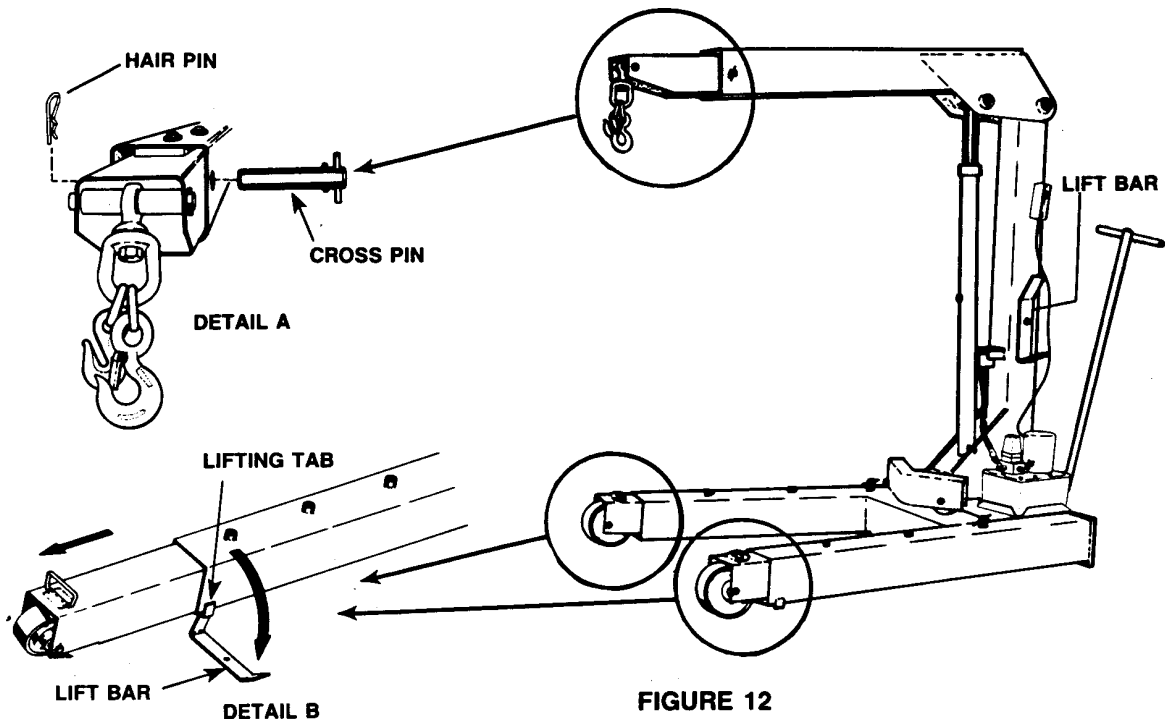

FIGURE 12
1. To extend the boom, remove the cross pin and slide the boom extension out to a desired length. See Figure 12, Detail A.
1. To extend the legs of the crane, remove the lift bar from the crane mast. Position the lift bar so that it engages the lifting tab located on the crane leg. See Figure 12, Detail B.
⚠ WARNING: In Figure 12, the legs are shown in the retracted (storage) position. Do NOT support a load with the legs in the storage position. To prevent tipping and possible personal injury, the legs must be moved out to a load-bearing position BEFORE using.
1. Store the floor crane with the hydraulic pressure released, the hydraulic valve closed, and the legs in the fully retracted position. See Figure 12.